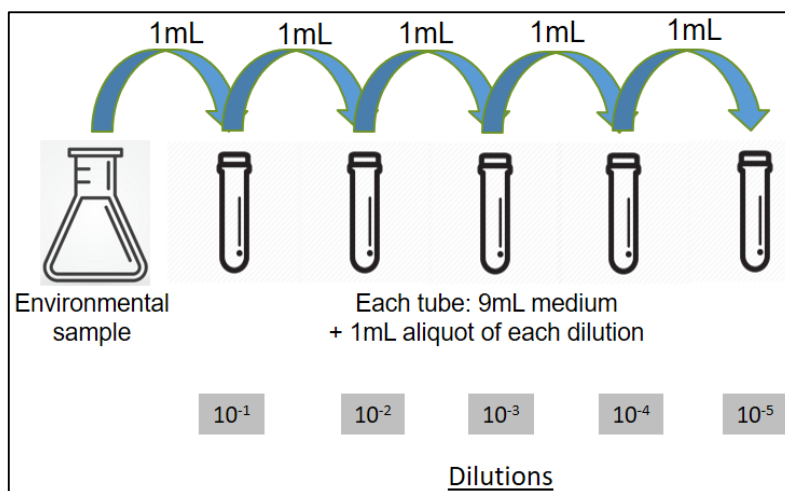

Figure 2.2 Steps of the serial dilution method.
6. Repeat steps 4 and 5 by transferring 1 mL mixture from the previous test tube to the next 9 mL diluents sequentially to prepare dilutions of 10^{-2} , 10^{-3} , 10^{-4} , and 10^{-5} (Figure 2.2)